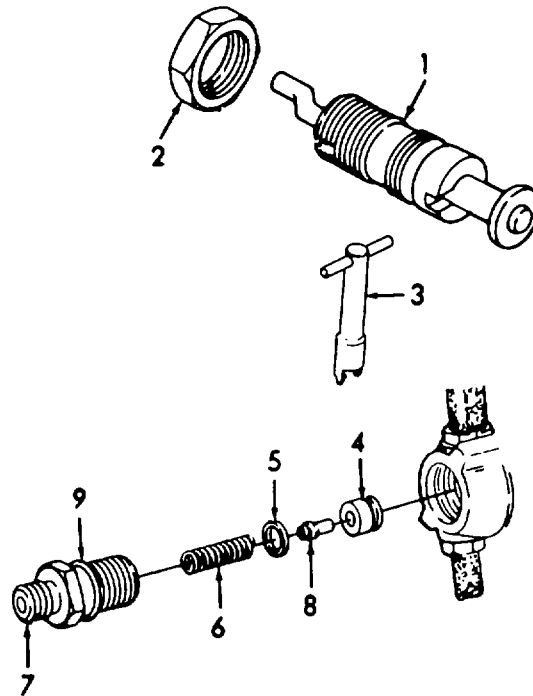

Figure 5-13. Extra Fuel Button Adjustment.
- (e) Refer to figure 5-13 and loosen extra fuel button jam nut (2) with socket wrench, 30 mm.
- (f) Using special wrench (3), slightly rotate eccentric (1) until fuel drips at desired rate.
- (g) Tighten extra fuel fuel button jam nut (2).